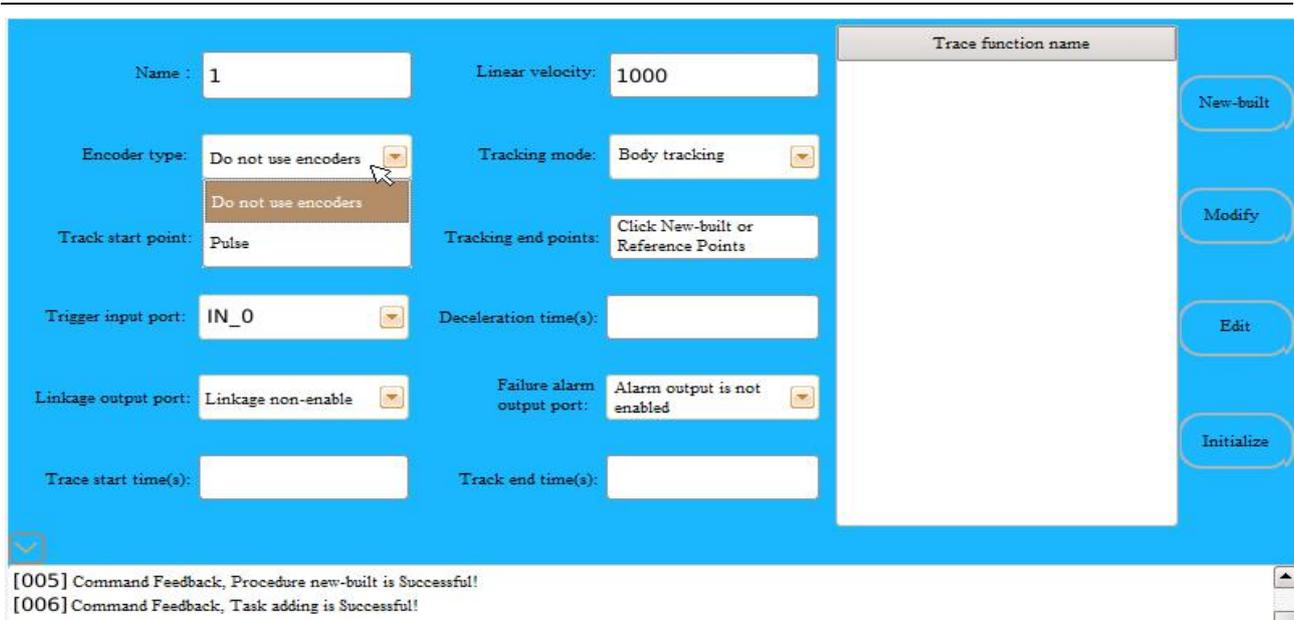

Fig. 6.2 Classification of “Encoder type”
According to the encoder type, the “Body tracking” can be divided into two types of encoder types: “Do not use encoders” and “Pulse type”, as shown in Fig. 6.2.
(1) No encoder body tracking is used: after selecting the “Encoder body tracking is not used” tracking function, the parameters required to be set are shown in Fig. 6.2. The “Name” is to create a trace function name; “Linear velocity” means the body tracking speed; “Track start point” and “Tracking end points” are directions to determine the body tracking; In “Trigger input port” to determine an I/O input port, a high electrical level “1.” needs to be provided when triggered; The “Deceleration time” determines the “acceleration”; “Linkage output port” means that through a system I/O output port associated with the pipeline, the “Pause”, “go on” and “Start-up” of the system can also control the operation of the pipeline, and the parameter can not be set; failure alarm output port is connected with remote monitoring through a system I/O output port. When tracing fails, it can be displayed at the remote monitoring end, and this parameter is not necessary to be set; The “Trace start time” is “Tracking” after the I/O input port is triggered and through this setting time; “Track end time” means that after the I/O input port is triggered, this “Tracking” fails if this setting time is not on the “Tracking”.